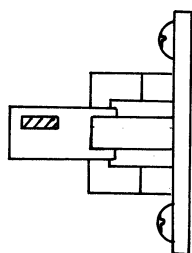
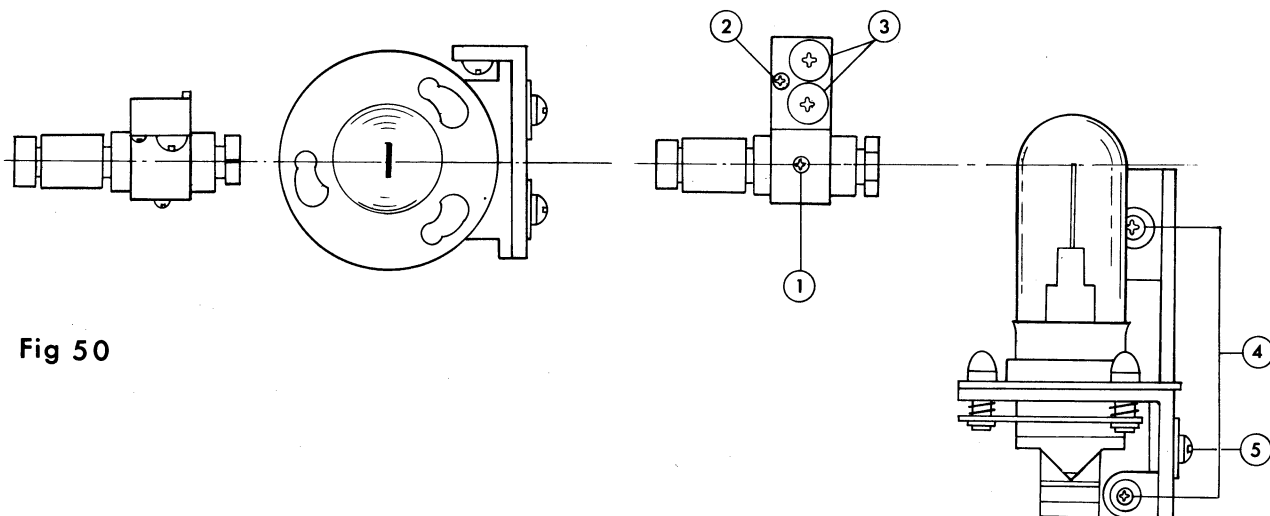

Fig 49
Fig 50
1. Remove the sound drum and turn on the exciter lamp. Adjust the position of sound lens tentatively by screw (2)(3) of Fig.50 to focus the scanning beam on the solar battery as shown in Fig.49.
2. Attach the sound drum. Adjust the position of exciter lamp so that the axis of the lamp filament is aligned with the light axis of sound lens as shown in Fig.50.
4. Loosen (1) and move the sound lens little by little in forward and backward, and tighten or loosen (2) (3) to obtain maximum output.